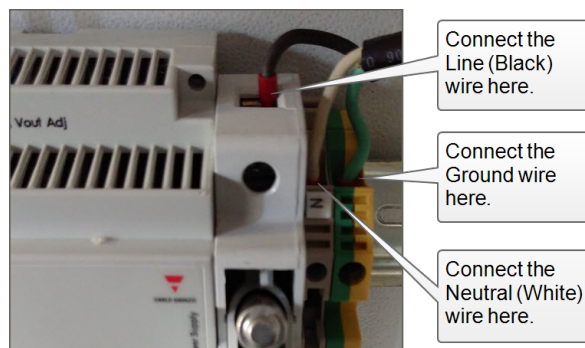

Figure 6: Close-up view of AC power connectors
2. Connect the Ground wires to the GREEN/YELLOW terminal (see Figure 6: on the next page).